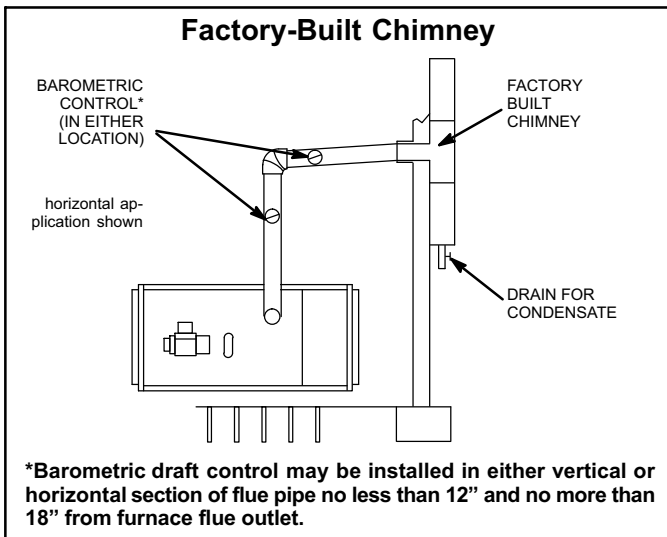

Figure 9
15. All vent pipe run through unconditioned areas or outside shall be constructed of factory-built chimney sections. See figure 9.